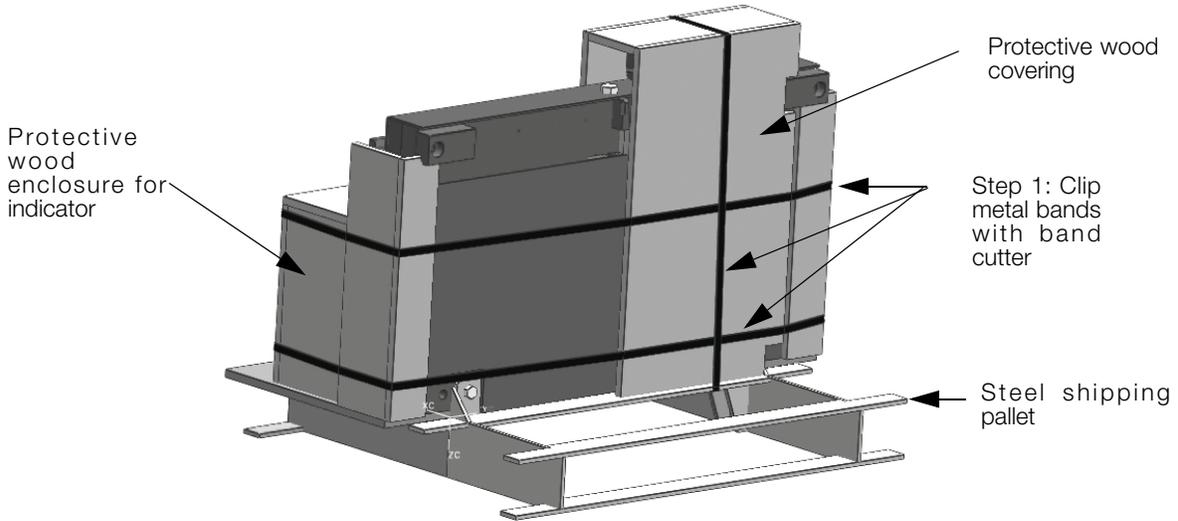

Figure 2-2. Scale Component Parts on Shipping Pallet
The scale and indicator are shipped in an upright position as illustrated in Figure 2-2 and is enclosed in a protective wood cover. The upright position allows for ease of installation, especially if one person is installing the scale.
1. Clip the three metal bands that are encircling the scale and component box on the backside of the pallet (shown in Figure 2-2) and also remove the protective wood pieces which protect the sides of the scale.